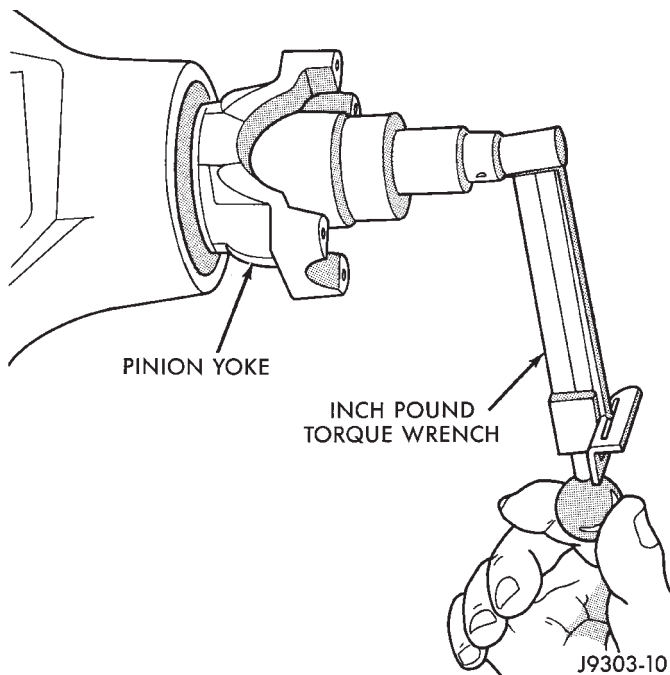

Fig. 17 Check Pinion Rotation Torque
(10) Rotate the pinion shaft using an (in. lbs.) torque wrench. Rotating torque should be equal to the reading recorded during removal, plus an additional 0.56 N·m (5 in. lbs.) (Fig. 17).